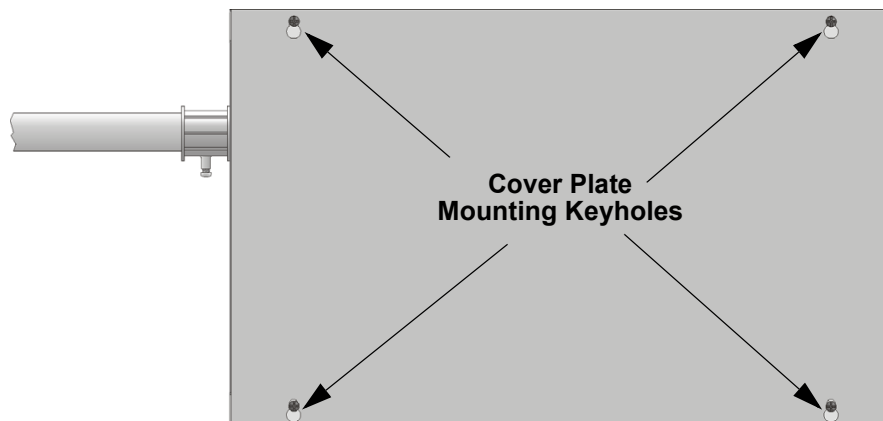

**Figure 4.7 Battery Connections in the RBB or AB-55 Cabinet**
3. Run extended battery cable from control panel cabinet through conduit to RBB or AB-55 cabinet. See Figure 4.7.
**NOTE:** Figure 4.7 is an example of how the wire connections can be routed. However, any other cabinet knock-outs (on either the main control panel or the RBB/AB-55 cabinet), that are not previously being used may be utilized to connect conduit between the two cabinets.
4. Connect battery leads to the backup battery terminals. See Figure 4.7.
5. Insert the RBB or AB-55 cover screws into the cover mounting holes. See Figure 4.7.